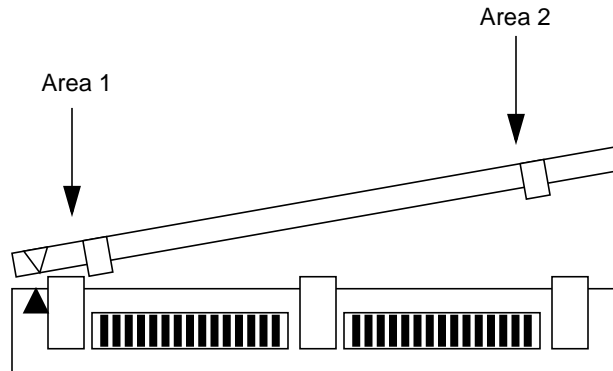

Figure 3 CPU Module Mating
- Application of mating force needs to start at one end of the connector (area 1, and then proceed to the other (area 2). See Figure 3.